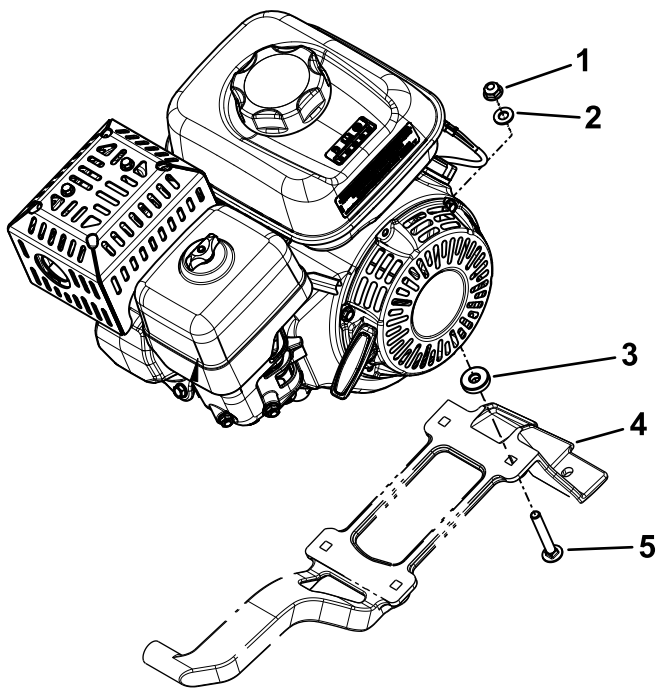

Figure 2
1. Use 4 bolts, 4 washers, 4 spacers, and 4 nuts to secure the engine to the engine base (Figure 2).